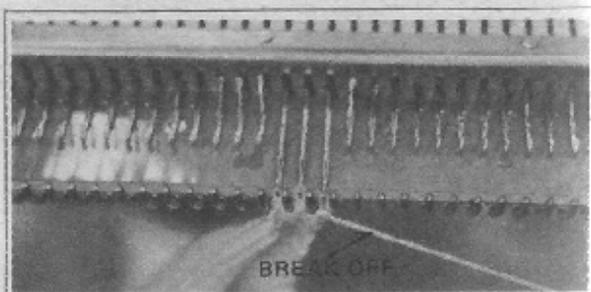

Fig. 4
7. If raglan styled, there will probably be three stitches left between the neck line edge and arm hole edge. And then break off wool. (Fig. 4)